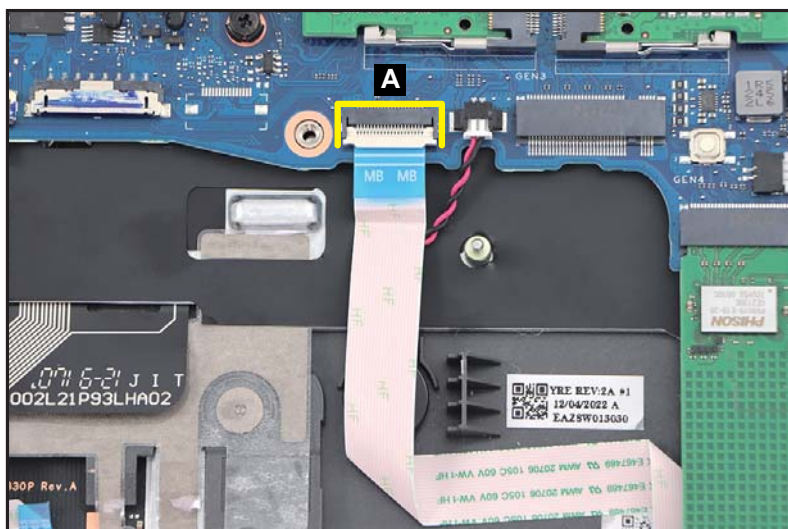

Figure 1-21. RTC Battery Removal
1. Disconnect the card reader board FFC from the mainboard connector (A) (Figure 1-21).